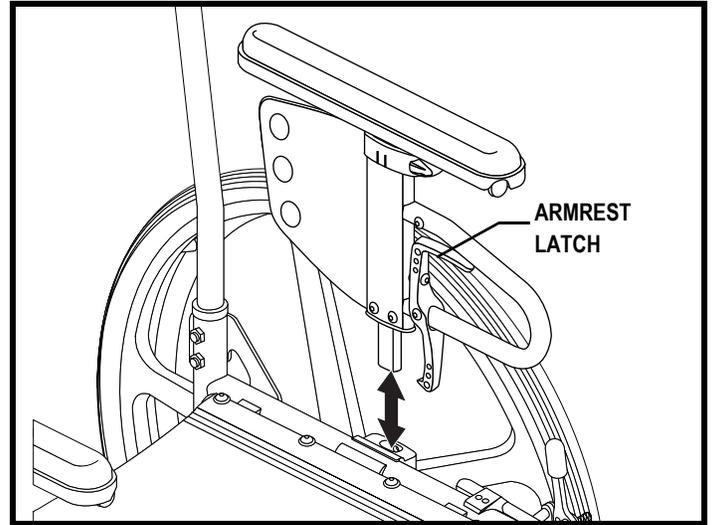

Figure 31 Drop-in Armrest Removal
1. Squeeze the armrest latch. See figure 31.